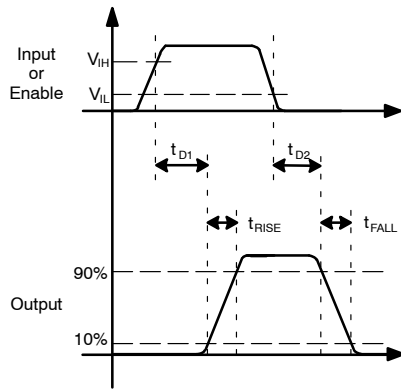
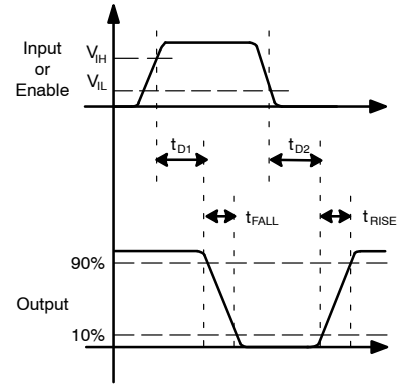

Figure 8. Non-Inverting
Figure 9. Inverting
10. See Timing Diagrams of Figure 8 and Figure 9.